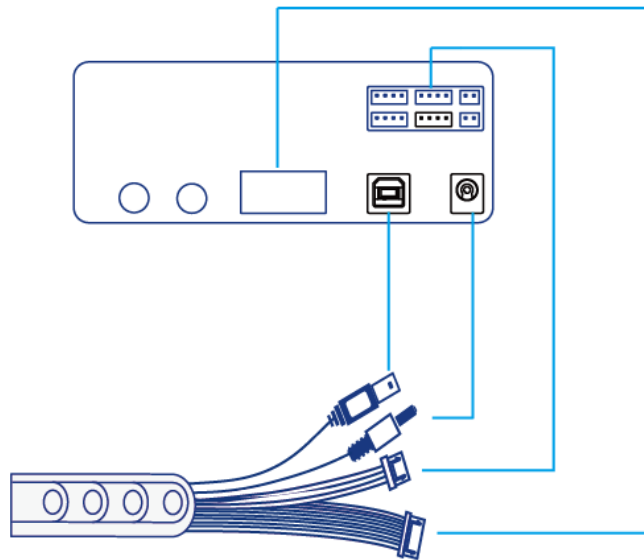

Figure 5.192 Connect to Dobot Magician
- Step 5** Connect the interfaces on the end of the wire set to Dobot Magician, as shown in Figure 5.192.